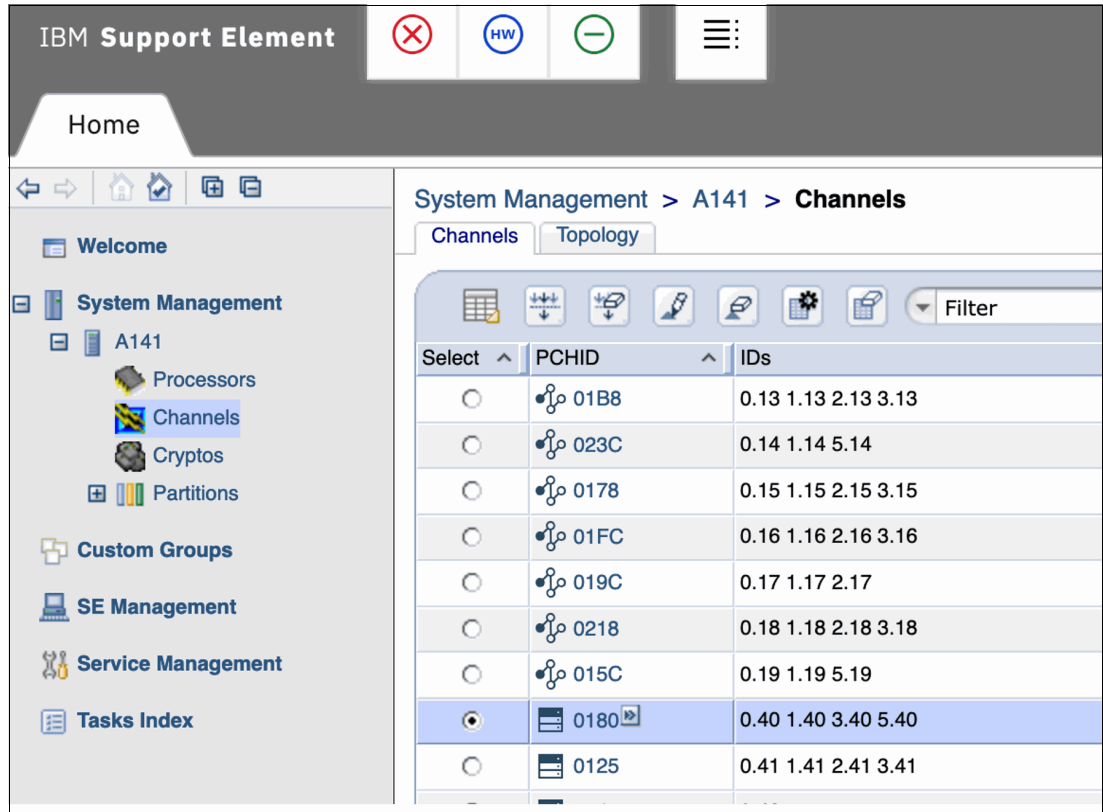

Figure 12 Channels view
3. In the System Management menu, navigate to the **CPC** menu and select the **Channels** view. Locate the channel ID for the FCP channel requiring NPIV activation for a specific LPAR and select it. This view is similar to the “Adapters” tab on the Hardware Management Console (HMC) for z15 and z16 systems. See Figure 12 on page 13.